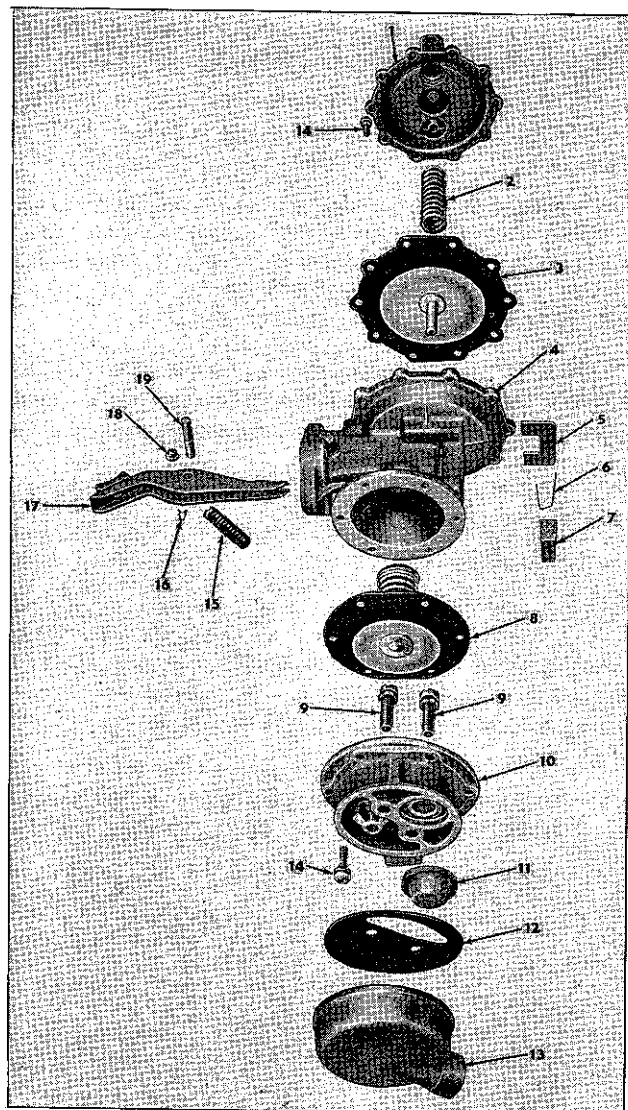

FIG. 145—FUEL AND VACUUM PUMP—
- b. Remove cam lever return spring, Fig. 145, cam lever pin retainer, cam lever pin plug, and cam lever pin. The cam lever will now slide freely out of pump body.
The vacuum section of the pump serves as a booster to the intake manifold vacuum to provide uniform windshield wiper operation at all engine speeds and loads. The booster diaphragm shaft is not attached to the cam lever. It is merely pushed up during vacuum pump operation. The vacuum booster may be serviced as a separate unit. See Fig. 145.
b. Remove the vacuum valve housing cover attaching screws Fig. 145, No. 14, and separate the vacuum valve housing cover No. 1, vacuum diaphragm spring (2) and the diaphragm assembly (3).
c. Pry the vacuum oil seal and breather vent plate (5) from body casting.
d. Remove the breather vent filter retaining spring (6) and the filter (7) from vacuum pump body.